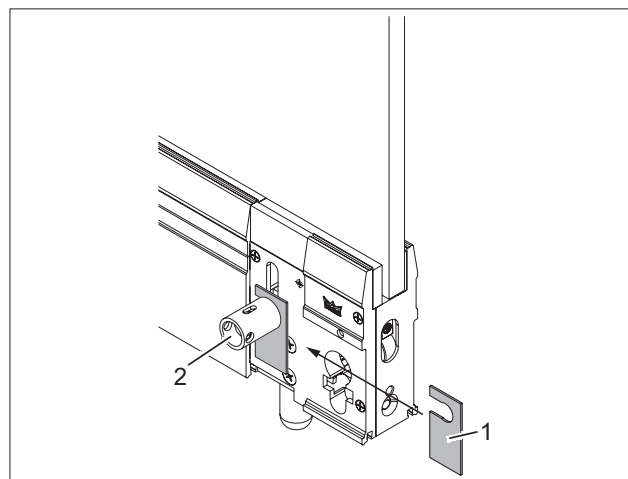

Fig. 31 Installing the panel
The sleeve (Fig. 31/2) is pre-installed.
1. Insert the panel (Fig. 31/1) behind the sleeve (Fig. 31/2) on the axis (Fig. 31).